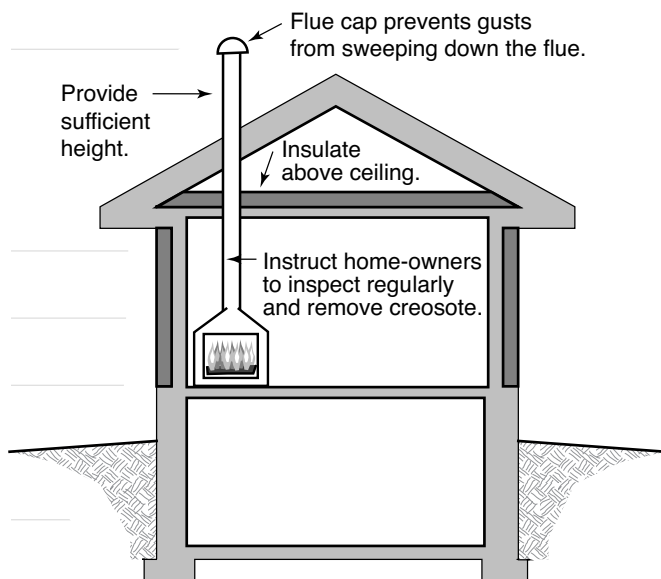

FIGURE 8
- ◆ Install a draft-inducing flue cap (see Figure 8).